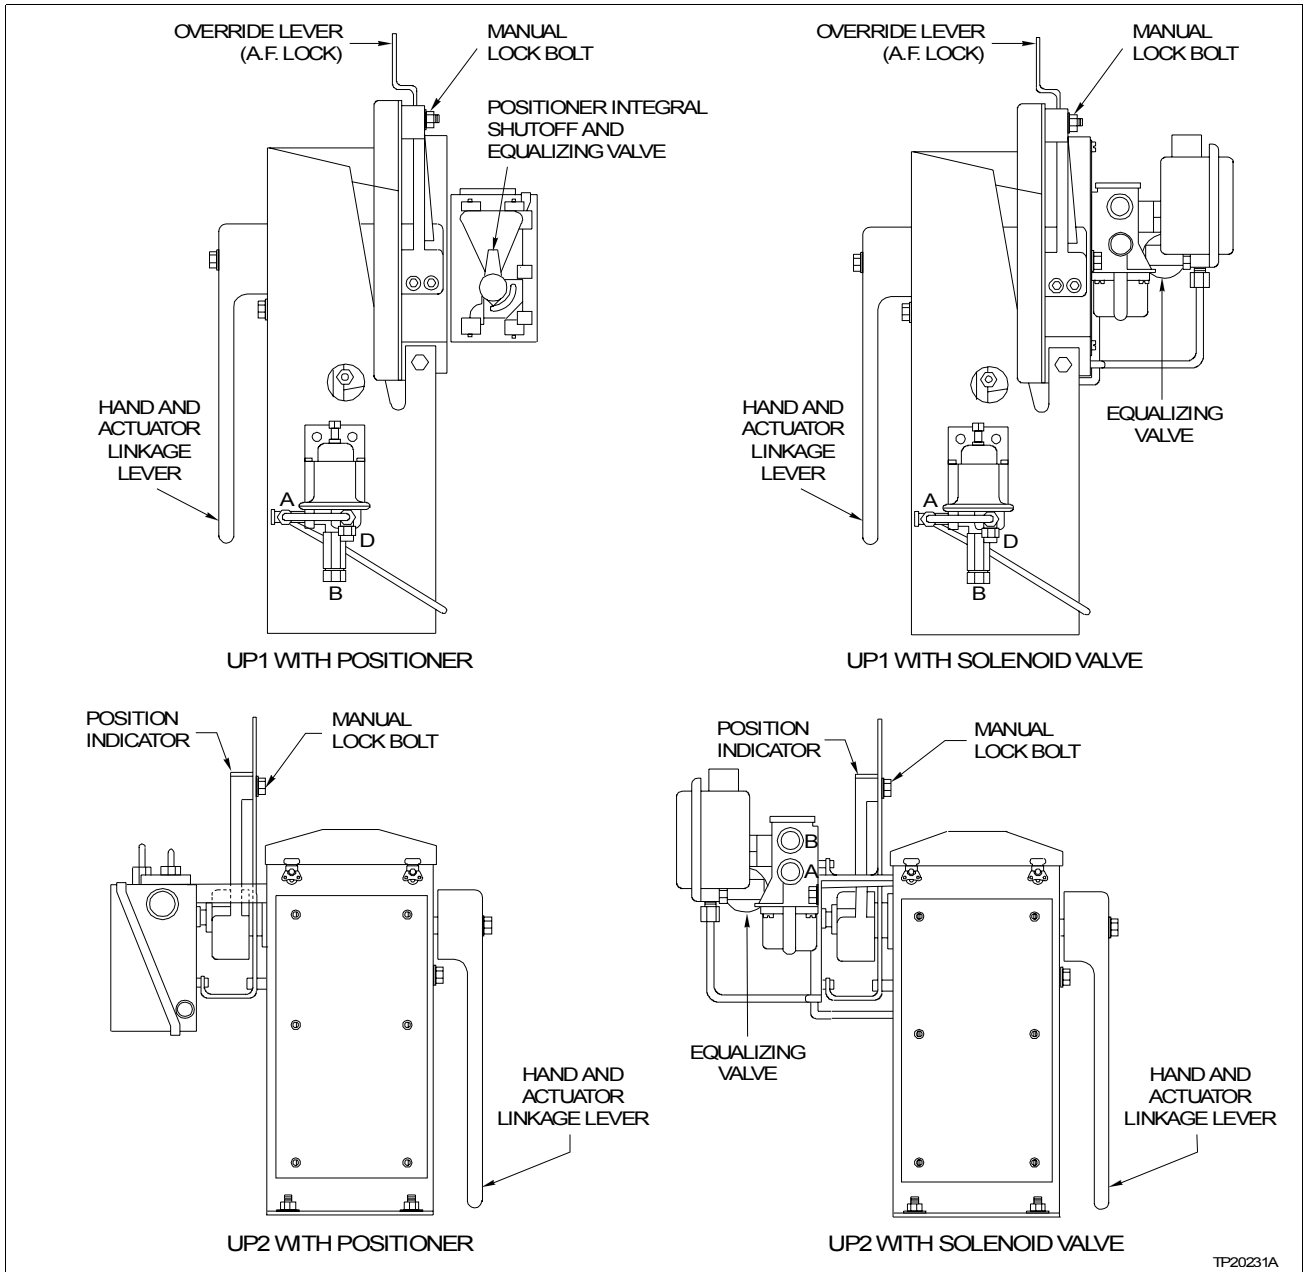

Figure 5-1. Operating Controls - Types UP1 and UP2 Actuators
Positioner-equipped actuators make use of the integral shutoff and equalizing valve (Figs. 5-1, 5-2 and 5-3) on the positioner. This allows either manual or automatic operation of the actuator power unit. When set for automatic operation, the valve is locked into position by a safety latch. This safety latch prevents the valve from being bumped or jarred out of position.
Solenoid-equipped actuators have an equalizing valve (Figs. 5-1, 5-2 and 5-3). On the Types UP1 and UP2 actuators, this valve equalizes pressure on both sides of the rotary vane paddle. This allows manual positioning of the vane paddle. On Types UP3, UP4, UP5 and UP6 actuators, the valve equalizes pressure on both sides of the cylinder. This allows manual positioning of the actuator using the hand operator ratchet handle.
**NOTE:** Refer to Figure 5-1.